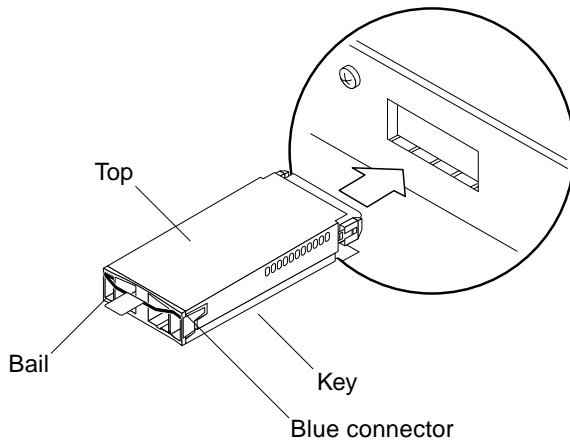

FIGURE 1-3 Installing the LW GBIC
2. With the bail in the unlock position, insert the LW GBIC into the port. The unlock position is with the bail near the top of the LW GBIC (FIGURE 1-3).